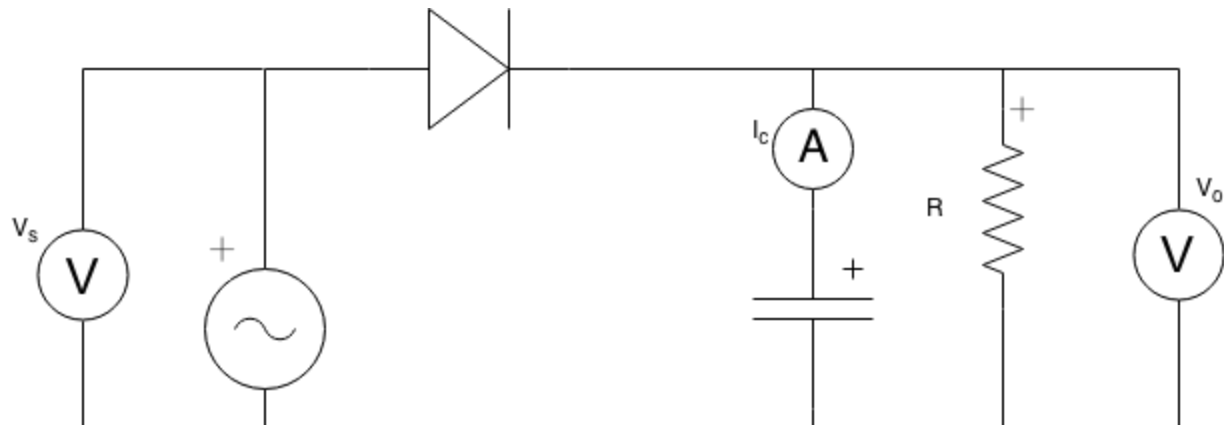

Figure 4
- A circuit was built using an $R=50\Omega$ resistor (See Figure 4).